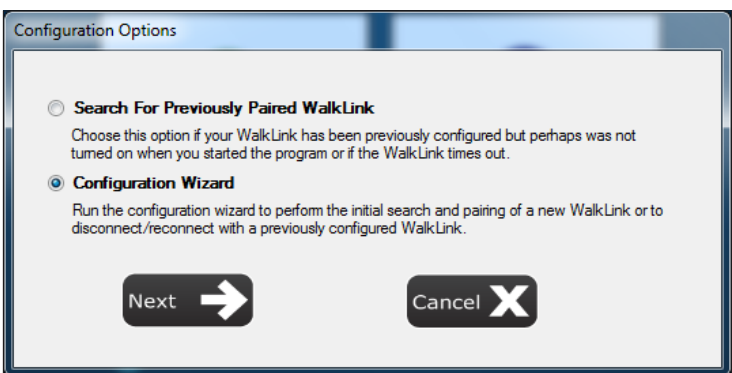

Figure 20: Select Configuration Wizard
- Select 'Configuration Wizard' and press the **Next** button (see Figure 20).